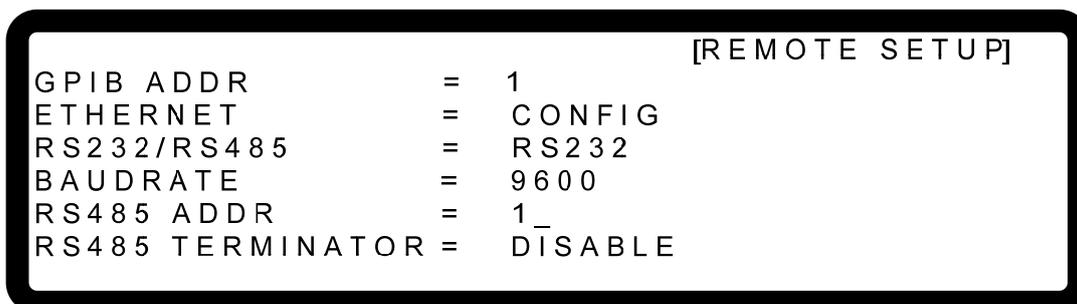

Figure 3-126
1. Use “”, “” keys to move the cursors to the column of RS485 as Figure 3-126 shows.